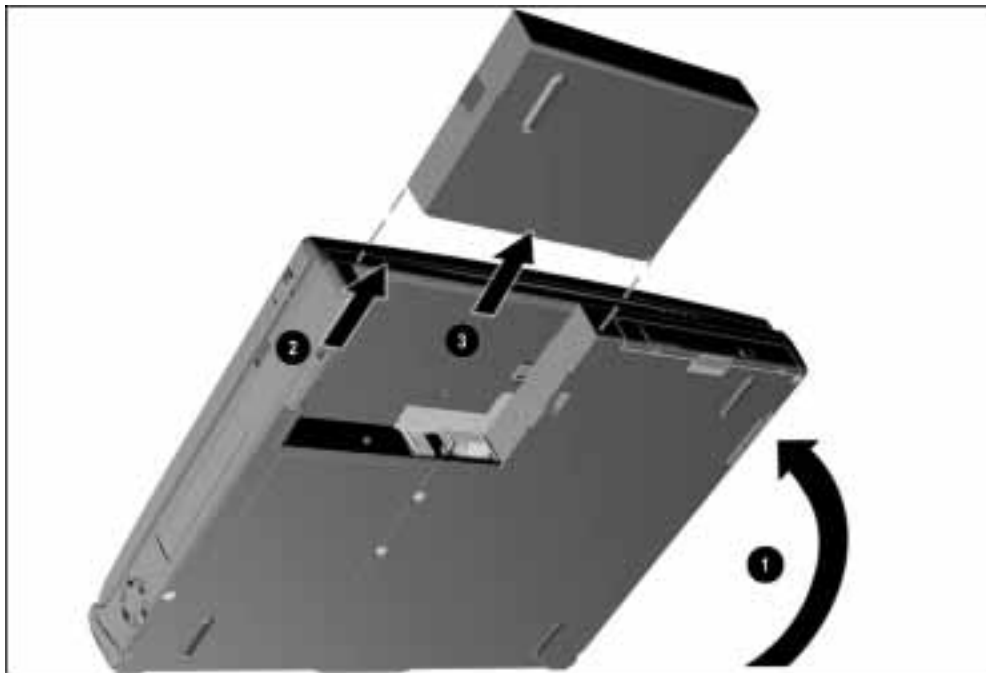

Figure 5-8. Removing a Battery Pack
2. Tilt the computer at an angle **1** so the bottom of the computer is accessible (Figure 5-8).